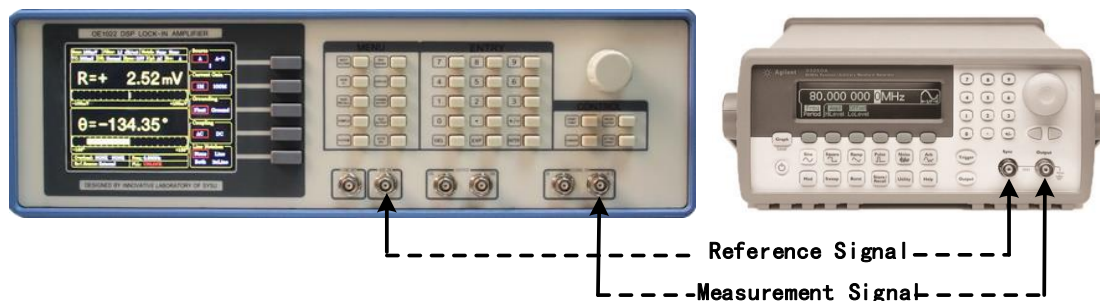

Fig.96 Signal Cable Connect Diagram
2. Use a BNC cable to connect the output of the function signal generator and the A/I input of the OE1022. Use another BNC cable to connect the reference signal of the function signal generator and the REF IN of the OE1022, as is shown in Fig.96.